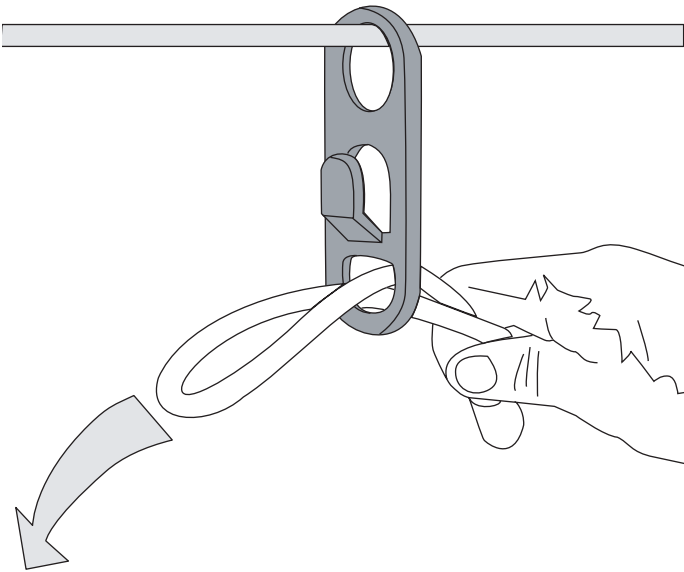

Fig. 3
2. Push the loop through the bottom hole in the retainer (Fig. 3).